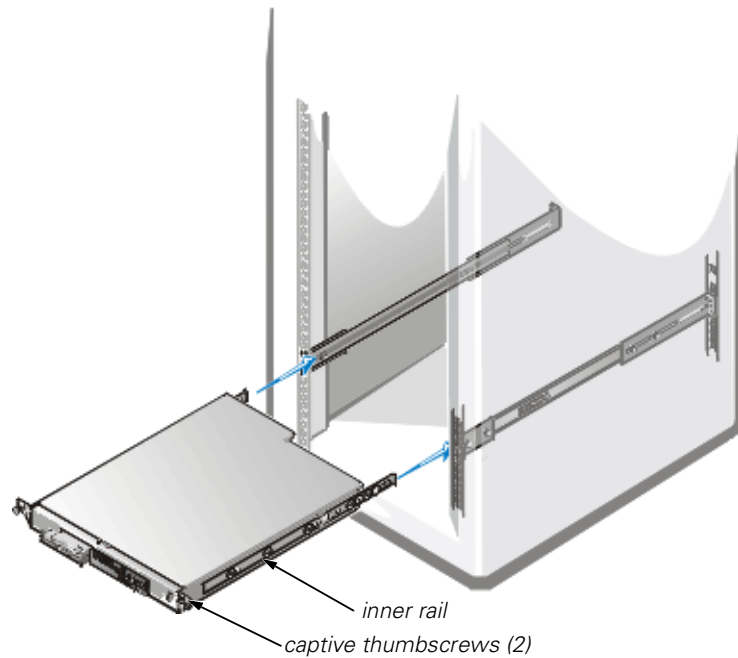

Figure 1-19. Installing the System in the Rack
3. Align the inner rails you installed on the sides of the system with the open portion of the slide assemblies (see Figure 1-19).
4. Push the system into the slide assemblies until the system stops (see Figure 1-19).